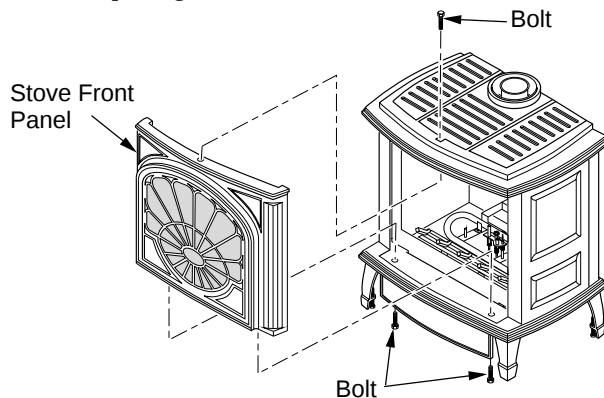

Figure 52 - Removing Front Panel from Stove (Amity™ Model Shown)
- If stove front panel is still installed, remove 2 bolts from bottom of stove and one from the top of stove to remove front panel (see Figure 52).